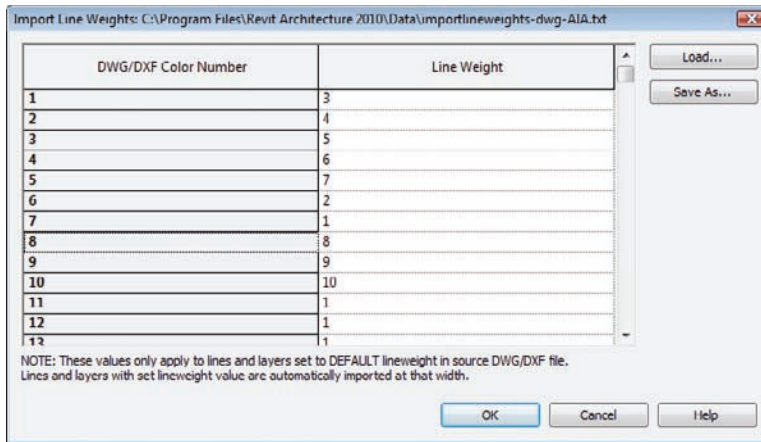

FIGURE 23.11 The adjusted line weights
4. You will automatically be taken to the directory where you mapped Revit to find your line weights files. They are simple text (.txt) files. Find the file called `import1lineweights-dwg-AIA.txt` and click Open. Your line weights have been adjusted, as shown in Figure 23.11.